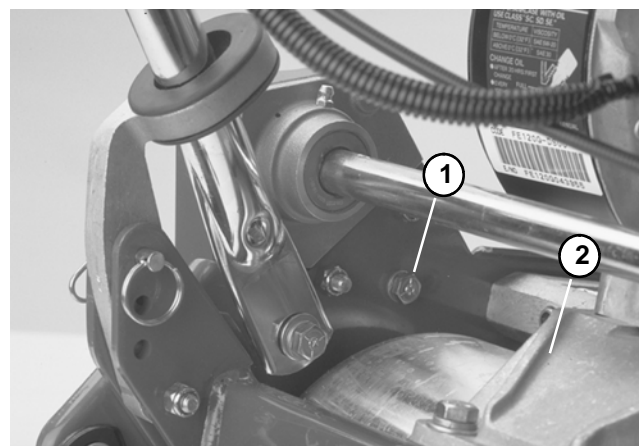

Figure 5
C. Loosen idler pulley capscrew (Fig. 5).
E. Tighten cap screw to lock adjustment (Fig. 5).